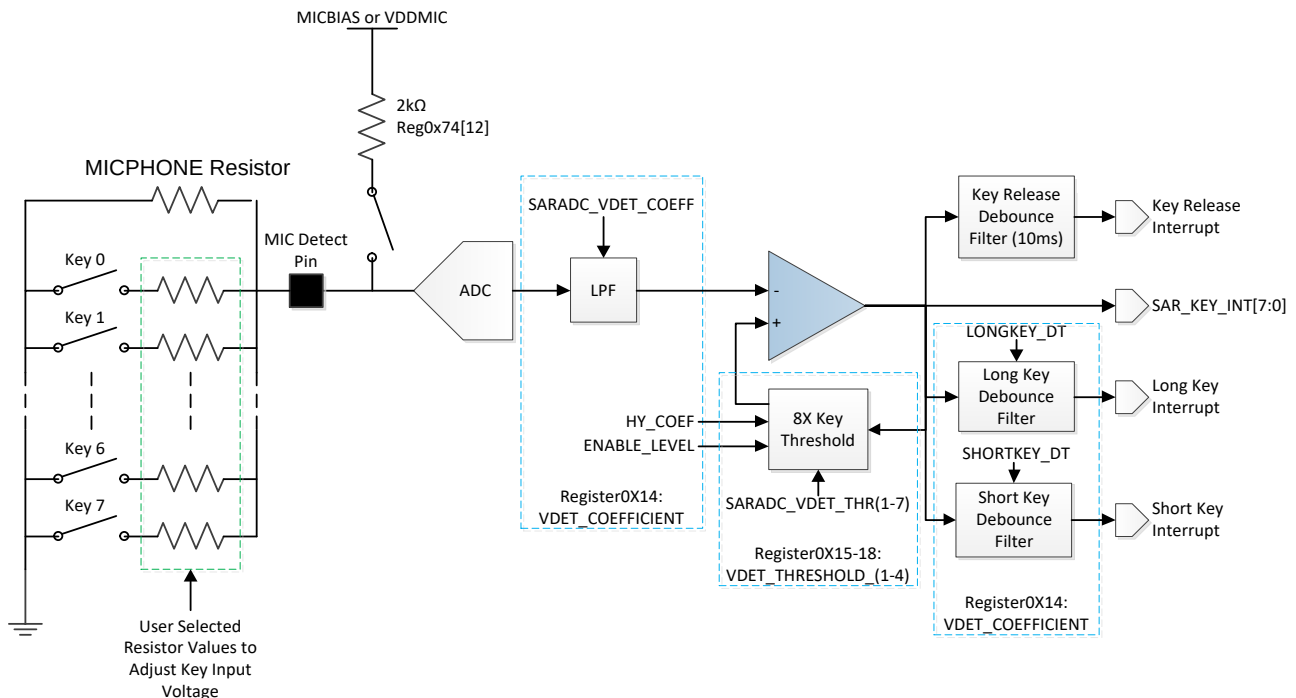

Figure 35: Key Detection
- 5) According to Figure 35, three threshold voltage levels for Key2 level could be set by **ENABLE_LEVEL=010**. First threshold voltage could be 98, the middle of 116 and 80 from 3) and 4). Hysteresis value can be set to 15, less than 50% of difference 116 and 80.
- **VDET_COEFFICIENT.HY_COEFF_REG0X14[3:0]** can be used to change the hysteresis range. The SARADC voltage needs to be lower than the hysteresis range to go into the lower level Key. On the other hand, voltage needs to be higher than the hysteresis range to go into a higher level key. This is shown by the dashed lines in Figure 35. If the voltage sampled is in the hysteresis range, the level needs to be compared to the previous state. For example, if the previous stat is Key 2 and the new sample is in the Key 1 hysteresis range, the logic will claim the status is still Key 2.